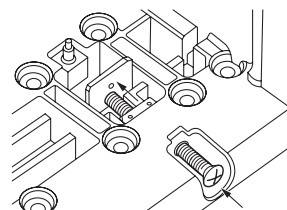

Figure 27
2. Tighten the screw until it touches the bypass flapper (Figure 27).